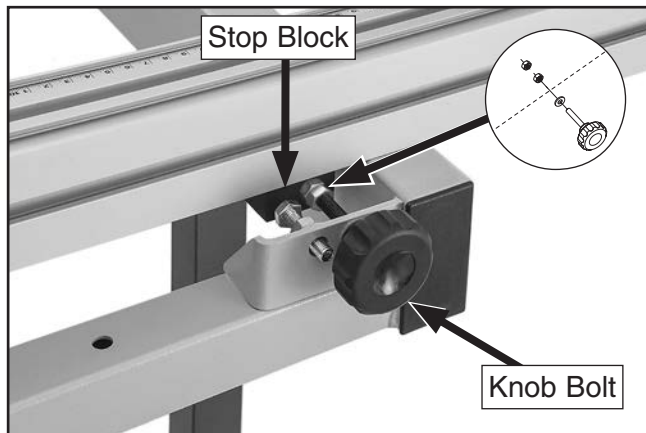

Figure 51. Knob bolt threaded into 90° stop block.
50. On right side of crosscut fence, make sure 0° stop block is against stop bolt, then secure fence by threading M8-1.25 x 50 knob bolt with (1) 8mm flat washer, and (2) M8-1.25 hex nuts into threaded hole on stop block, as shown in **Figure 51**.